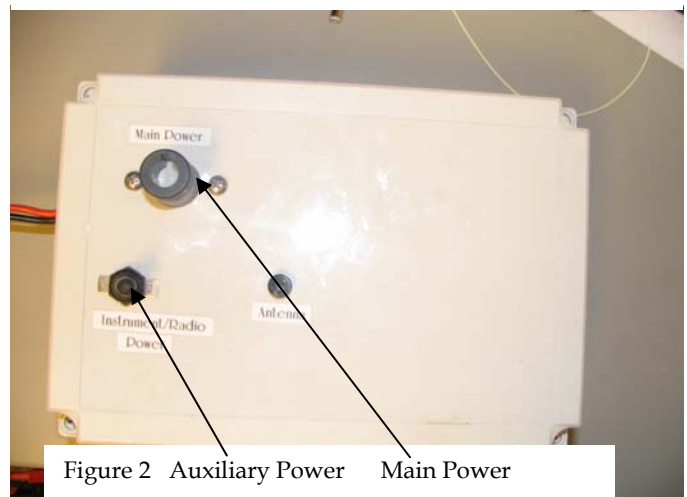

Figure 2 Auxiliary Power Main Power
The onboard Vessel Control Unit (VCU, see Figure 2) holds a speed controller and control radio receiver. The VCU also provides a 12VDC auxiliary power port for powering standard instrumentation equipment (including data transmission radios).
Step 2. Turn on the on-board power switches. Note the two switches on the lid of the electronics box in Figure 2: Main Power and Auxiliary Power switch (forward). *The main power switch does not have to be on for the auxiliary switch to provide power to the auxiliary port.*